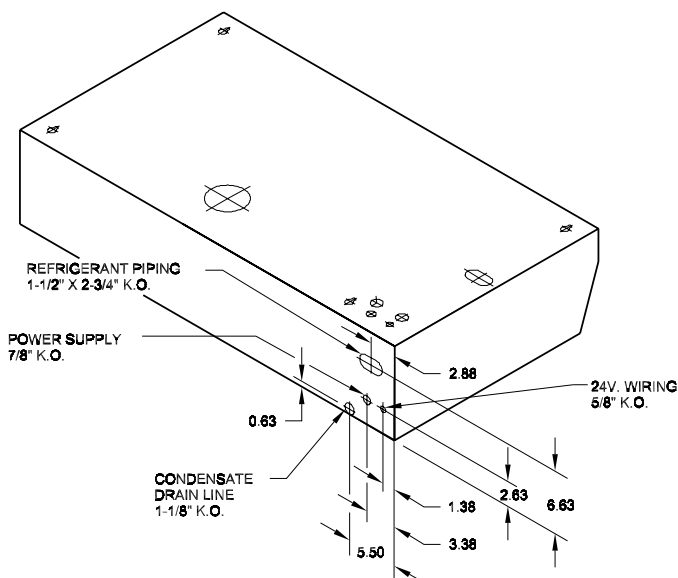

Figure 2
- 5) Refer to Figure 2 for location of refrigerant line and electrical service entry. Drill the appropriate holes in ceiling and framework as required.
- 6) Remove knockouts from unit wrapper where electrical and refrigerant service will enter. Install 5/8" snap bushing in 5/8" OD hole where 24 volt thermostat wire will be routed. See figure 2.
Figure 2 shows the location of the condensate knockouts.